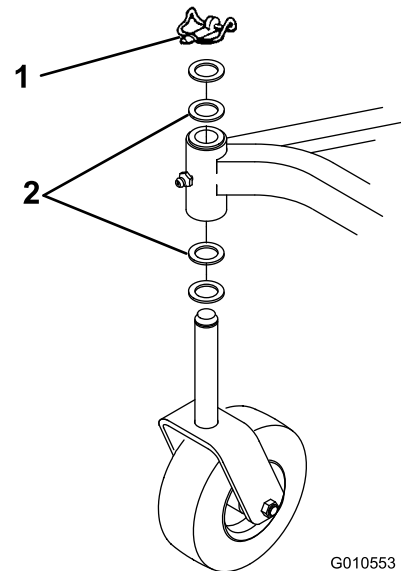

Figure 26
- A. Cutting units usually operated at 25 to 51 mm (1 to 2 inches) height-of-cut should have the low side of the cutting unit raised. Remove the lynch pin securing the castor wheel on the low end (Figure 26) and remove the castor assembly.
- C. If the cutting unit is operated at the 51 mm to 102 mm (2 to 4 inches) height-of-cut, lower the high side of the cutting unit. Remove the lynch pin of the castor at the high end of the unit and remove the castor assembly (Figure 26).